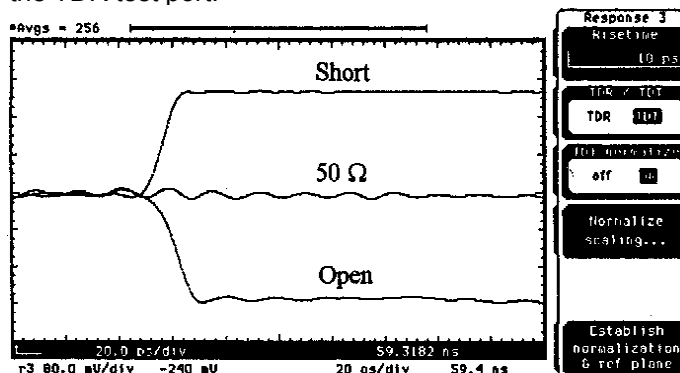

Figure 16: 10 ps Normalized TDR. Multiple Exposure Showing Short Circuit, 50 Ω , and Open Circuit Terminations. 20 ps/div.
17. Next test the normalization for various known terminations on the TDR reference port. Figure 16 shows the resultant 10 ps normalized waveforms for a short circuit, 50 Ohm, and open circuit termination. Press the "Clear